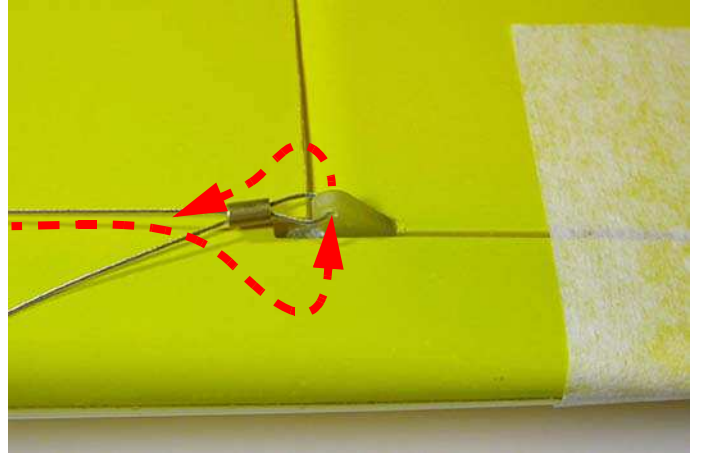

Fig.100: Inserting the cable into the horn.
- from the horn, insert the end of the cable into the wire-locking tube as shown in figure 100;